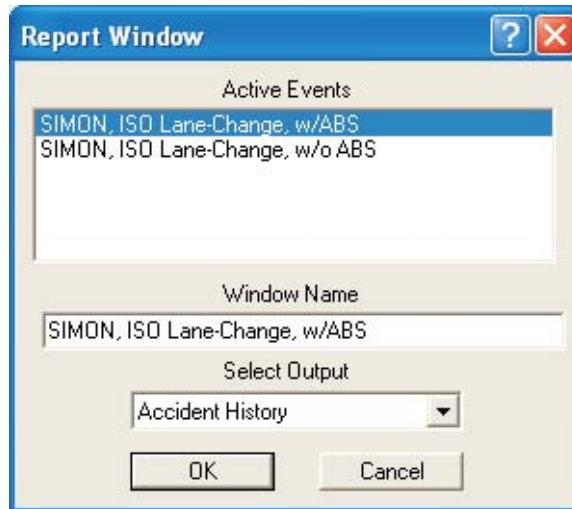

Figure 5-9 Report Window Information dialog, displaying the name of each event in the current case.
- Click *Add New Object*. The Report Window Information dialog is displayed, as shown in Figure 5-9, and includes a list of the active events (*SIMON, ISO Lane-Change, w/ABS* is the event whose output we'll review in this tutorial). The Report Window Information dialog also includes the user-editable *Report Window Name* text field and *Selected Output* option list.
- Click *Add New Object*. The Report Window Information dialog is displayed, as shown in Figure 5-9, and includes a list of the active events.